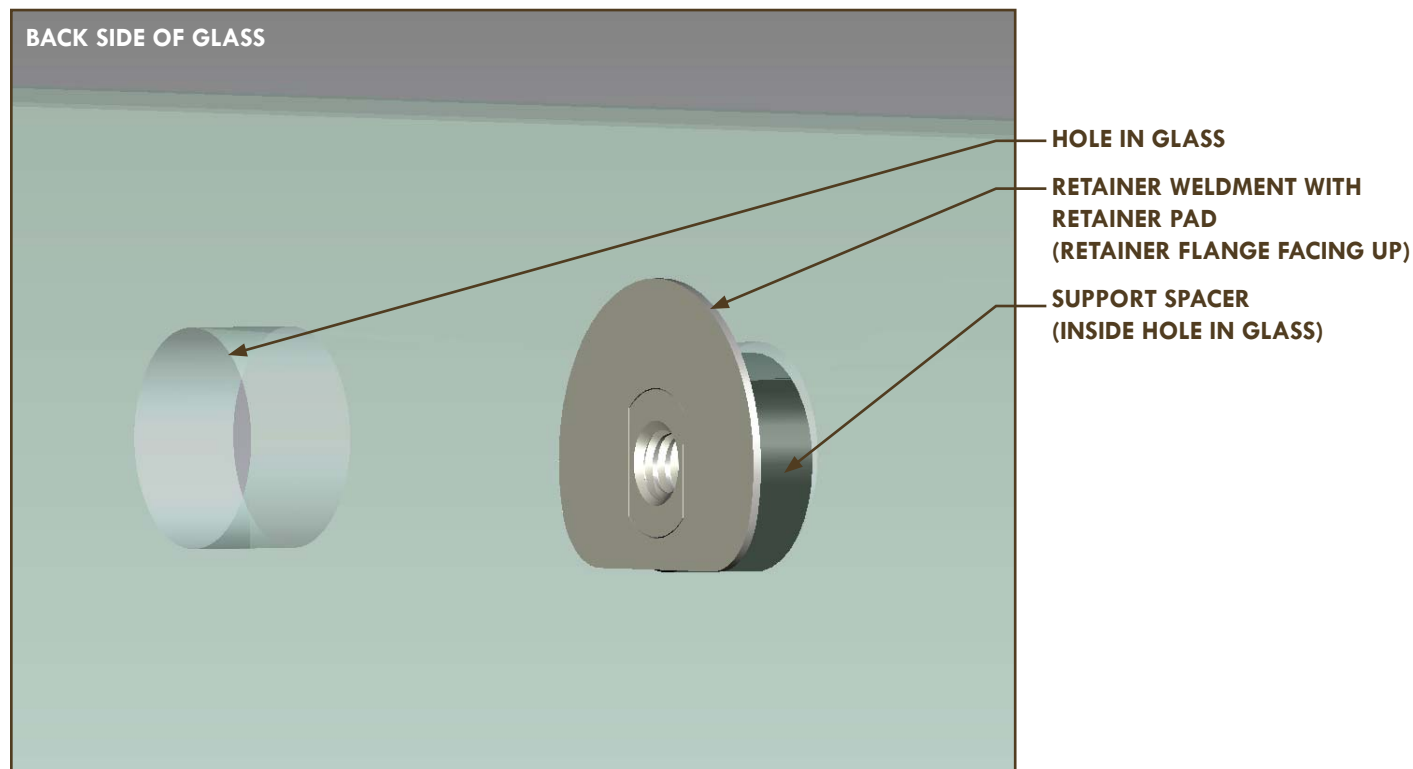

Figure 5. Retainer Weldment (Flange facing up) with Retainer Pad attached.
STEP 4. Insert Retainer Weldment with Retainer Pad along with Support Spacers into hole in back side of the Glass (Figures 5 & 6).